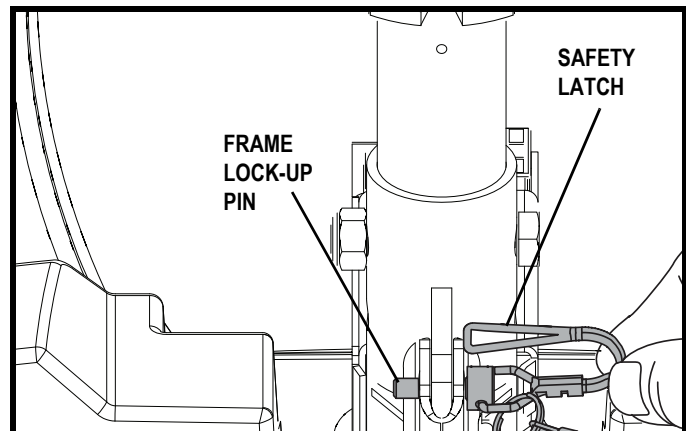

Figure 26. Frame Lock-up Pin
2. Remove the frame lock-up pin. See **figure 26**.